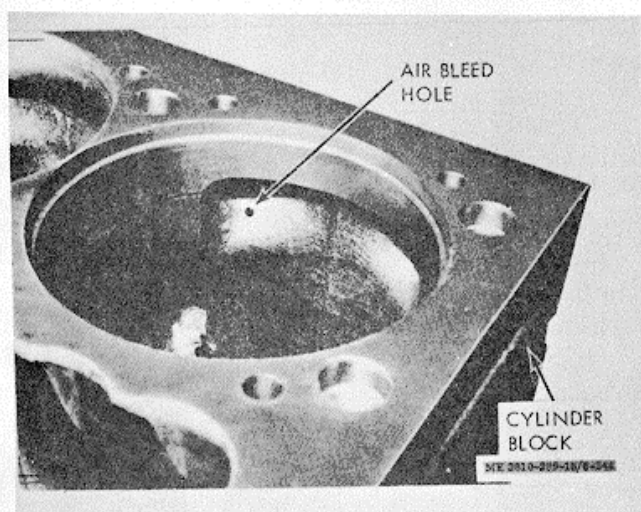

Figure 3-235. Air bleed hole.
(6) Clean hole at front (No. 1 cylinder) that opens into water header (fig. 3-235).